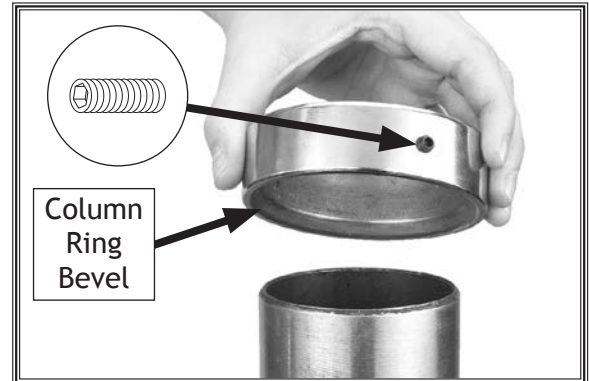

Figure 15. Column ring in correct position.
10. Loosen set screw shown in **Figure 15**, then slide the column ring onto the column with the inside bevel in the down position until the rack tapered-point seats into the bevel.